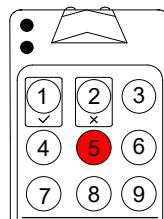

Figure 10
5. The new setting is saved, the button with the setting 5 is illuminated (*Fig. 10*).